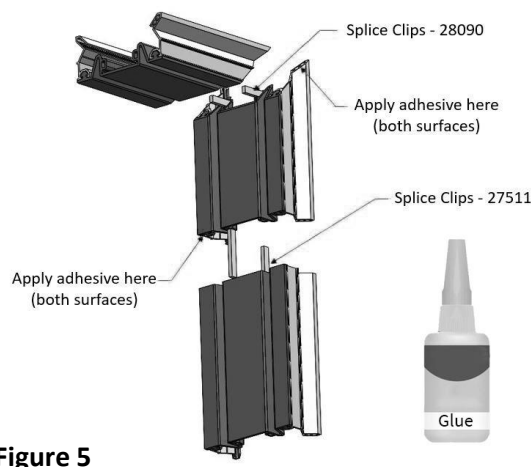

Figure 5
- Apply a bead of sealant (by installer) into the back channels of the extrusions. Install the back seal into these channels of the extrusion as shown. Make sure the bulbs of the back seal are firmly seated into the channels of the extrusion. Do not stretch the back seal lengthwise during installation. Use soapy water mix in channels if needed to assist the back seal into the channel. **See Figure 5**.
7. Apply a bead of sealant (by installer) into the back channels of the extrusions. Install the back seal into these channels of the extrusion as shown. Make sure the bulbs of the back seal are firmly seated into the channels of the extrusion. Do not stretch the back seal lengthwise during installation. Use soapy water mix in channels if needed to assist the seal into the channel. **See Figure 5.**
Insert splice clips (if required) (part # 28090) halfway into the alignment holes on one of the seals. Apply glue, cyanoacrylate or similar adhesive (by others) to both seal ends and follow instructions by the adhesive manufacturer. Almost immediately after adhesive is applied, insert the protruding ends of the splice clips into the ends of the two seals together, applying uniform pressure for at least two minutes while maintaining contact between both sides. The splice clip is not necessary, but is recommended, especially on larger sized seals. **See Figure 5**